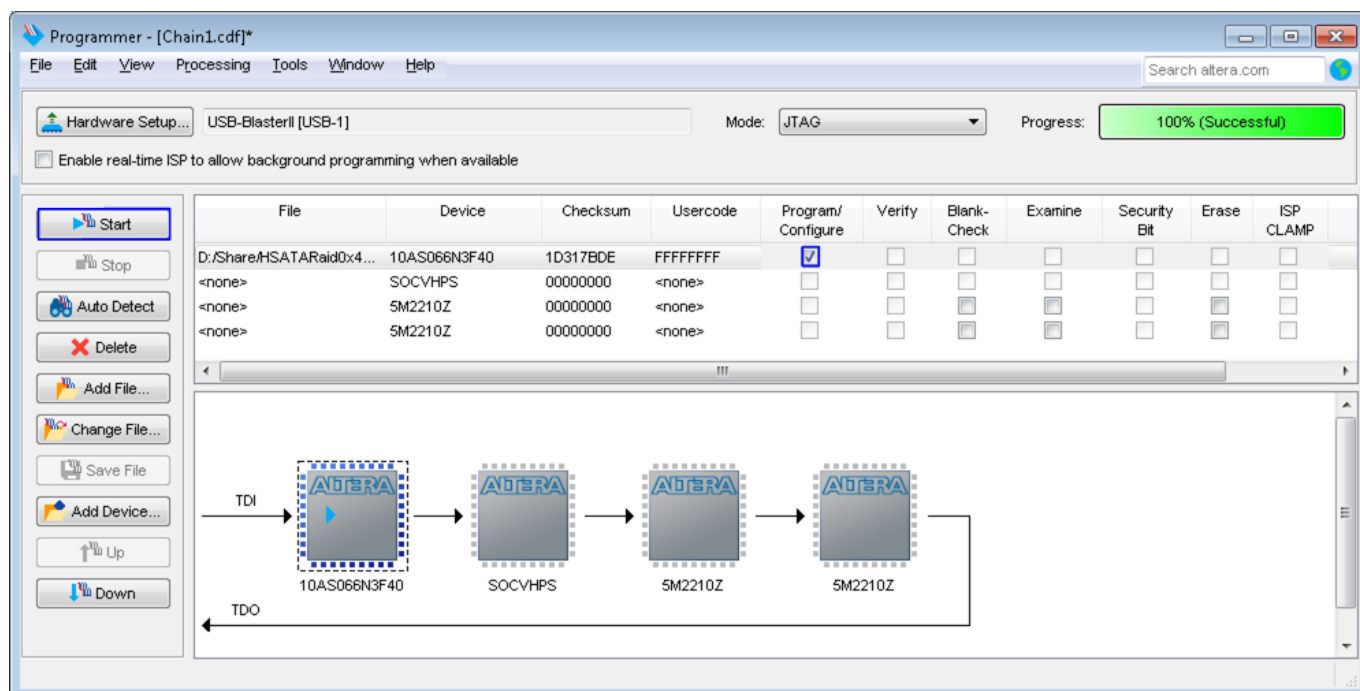

Figure 2-5 Programmed by QuartusII Programmer
7) Use QuartusII Programmer to program “HSATARaid0x4.sof” file, as shown in Figure 2-5.